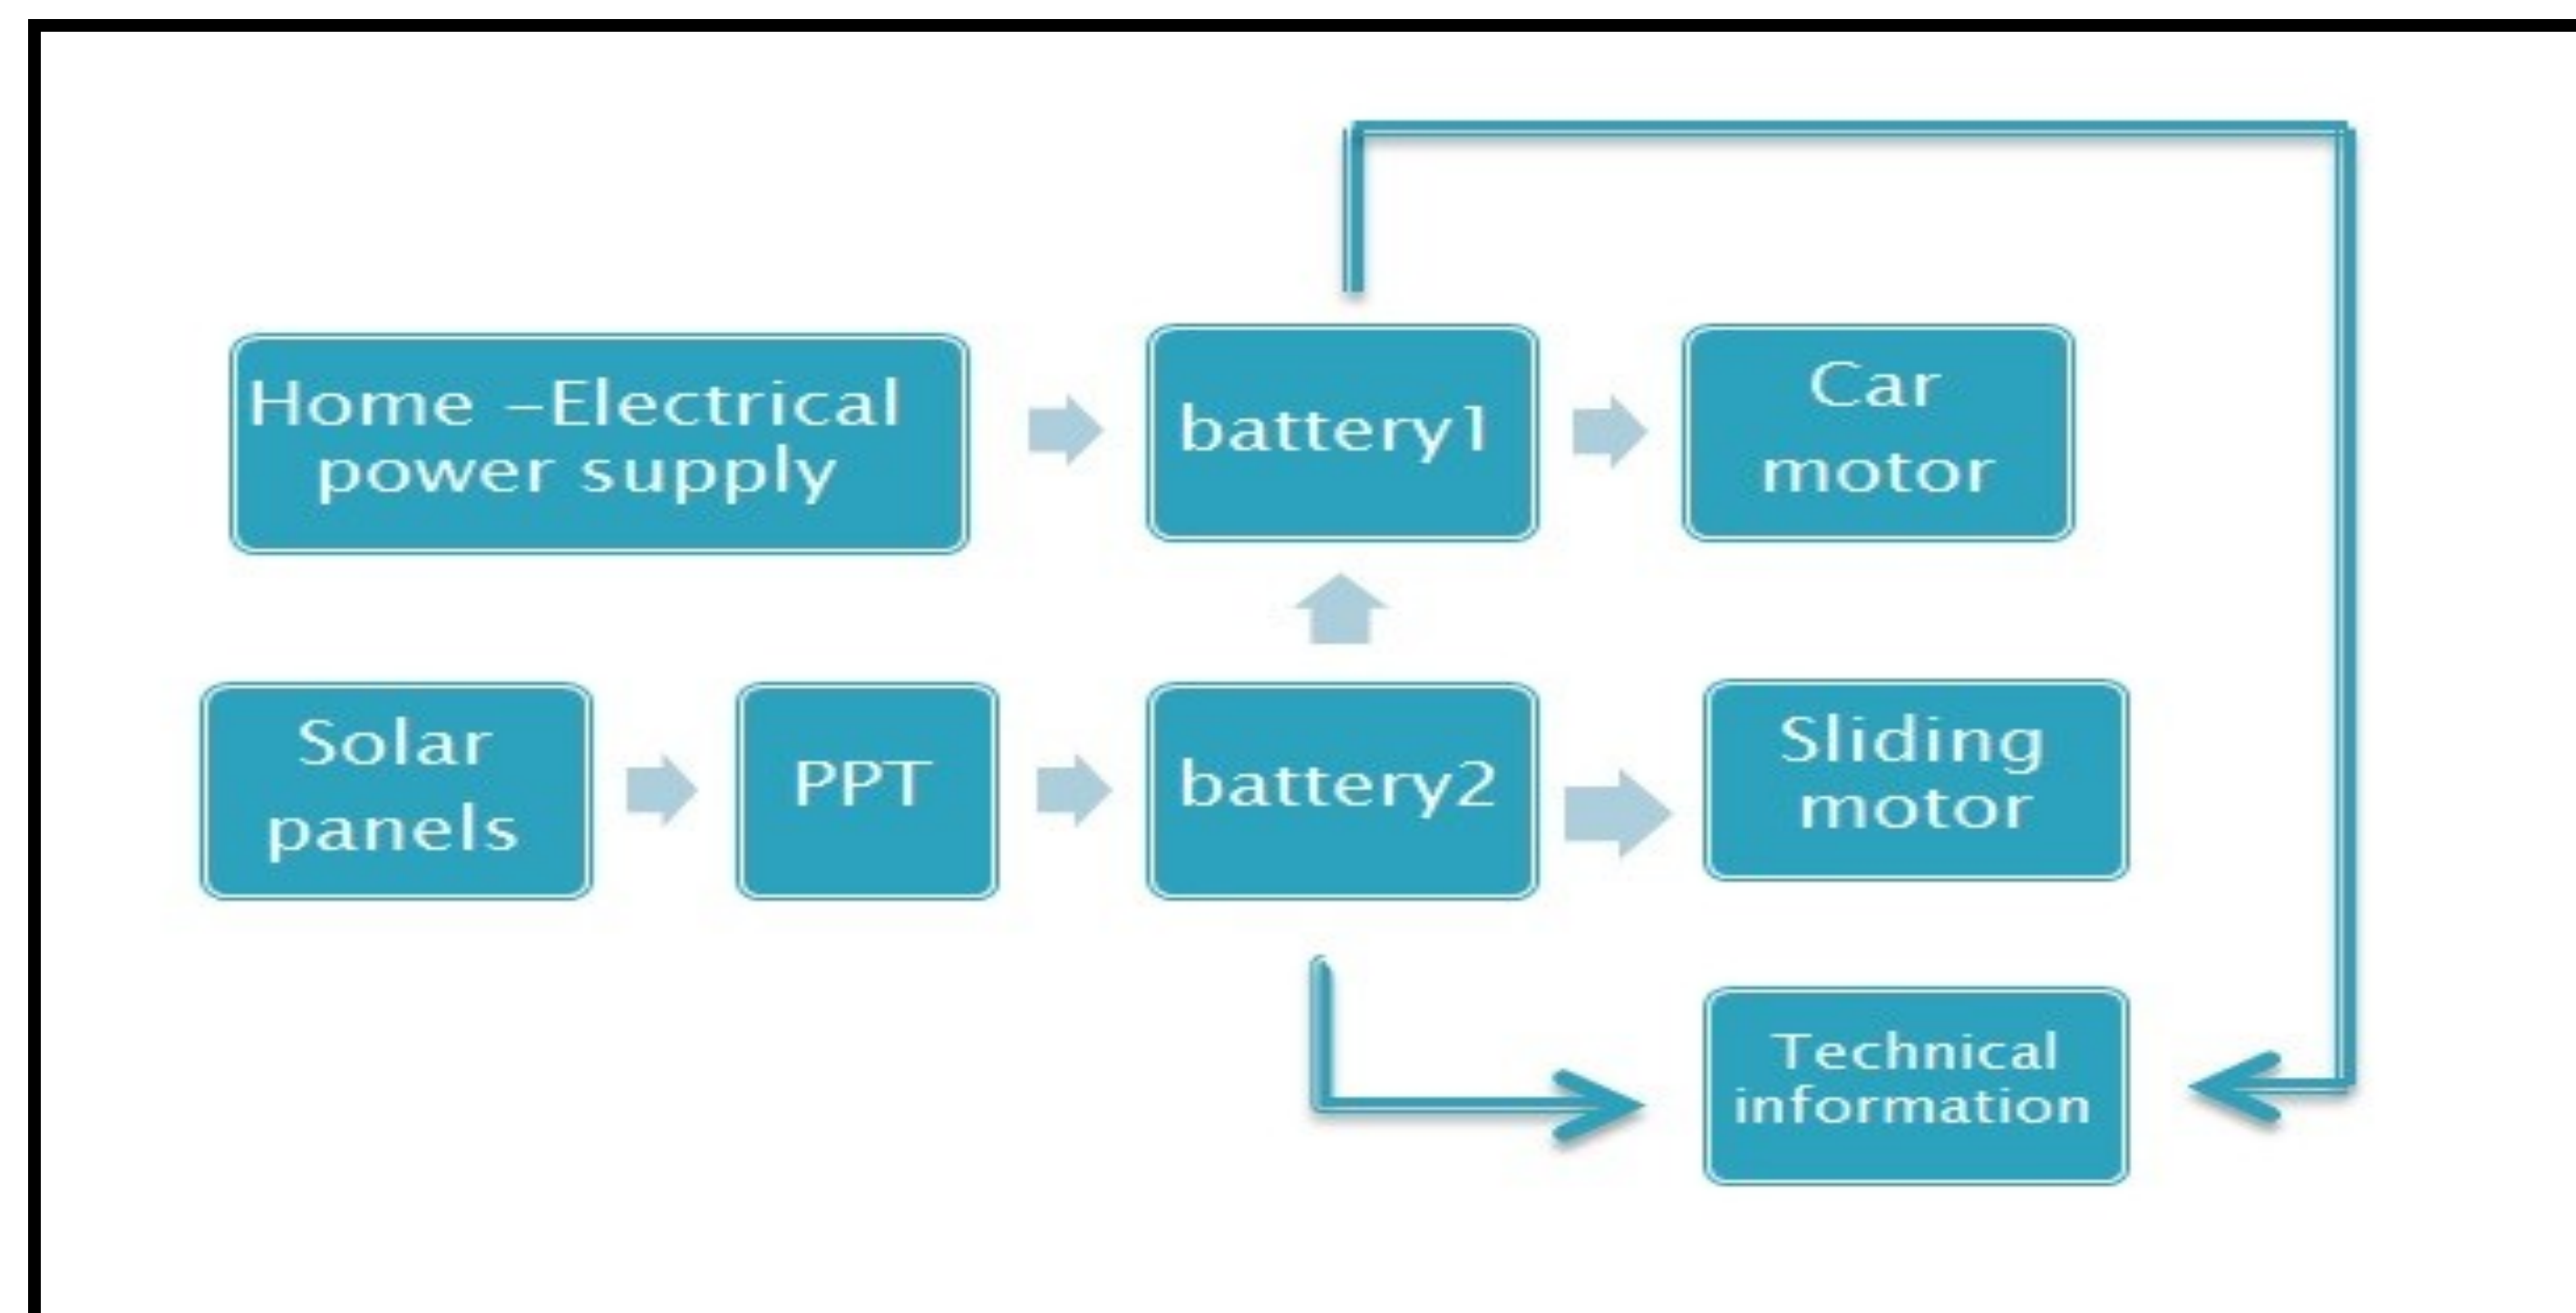

Figure 3: The Connections of the Electrical items
- Having a backup battery, shown in Figure 3, to provide more energy for the motors